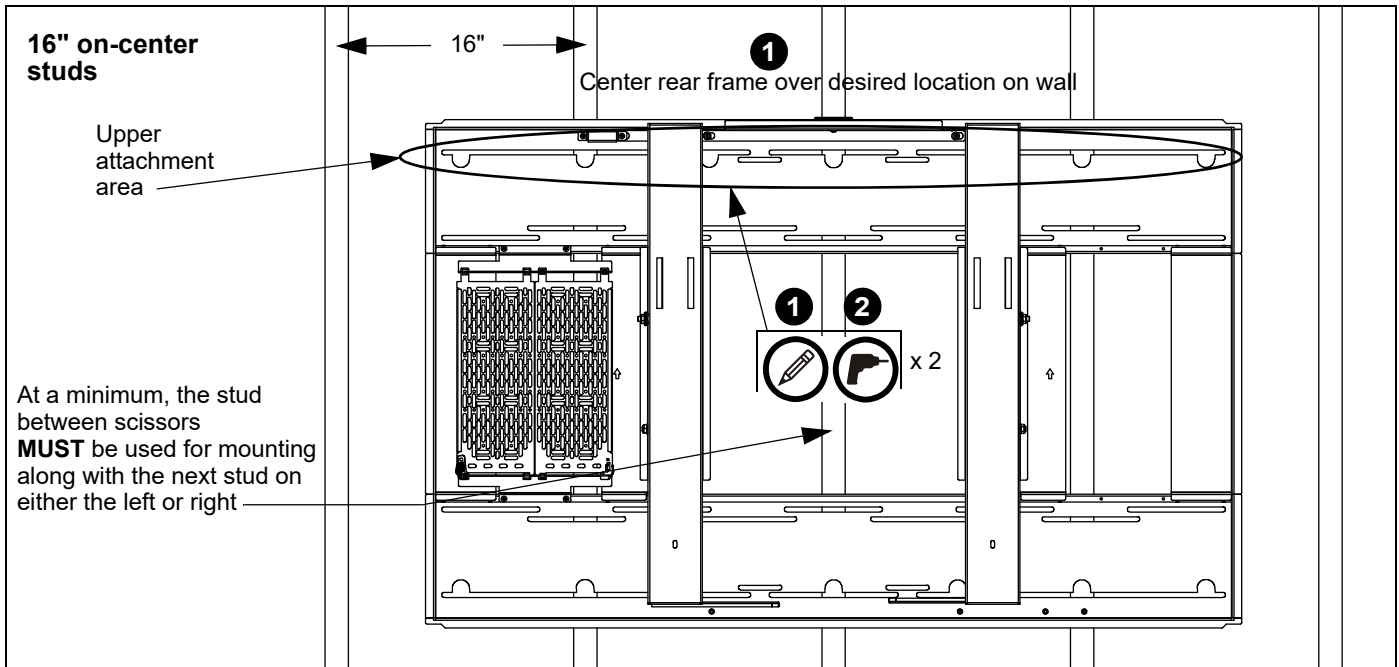
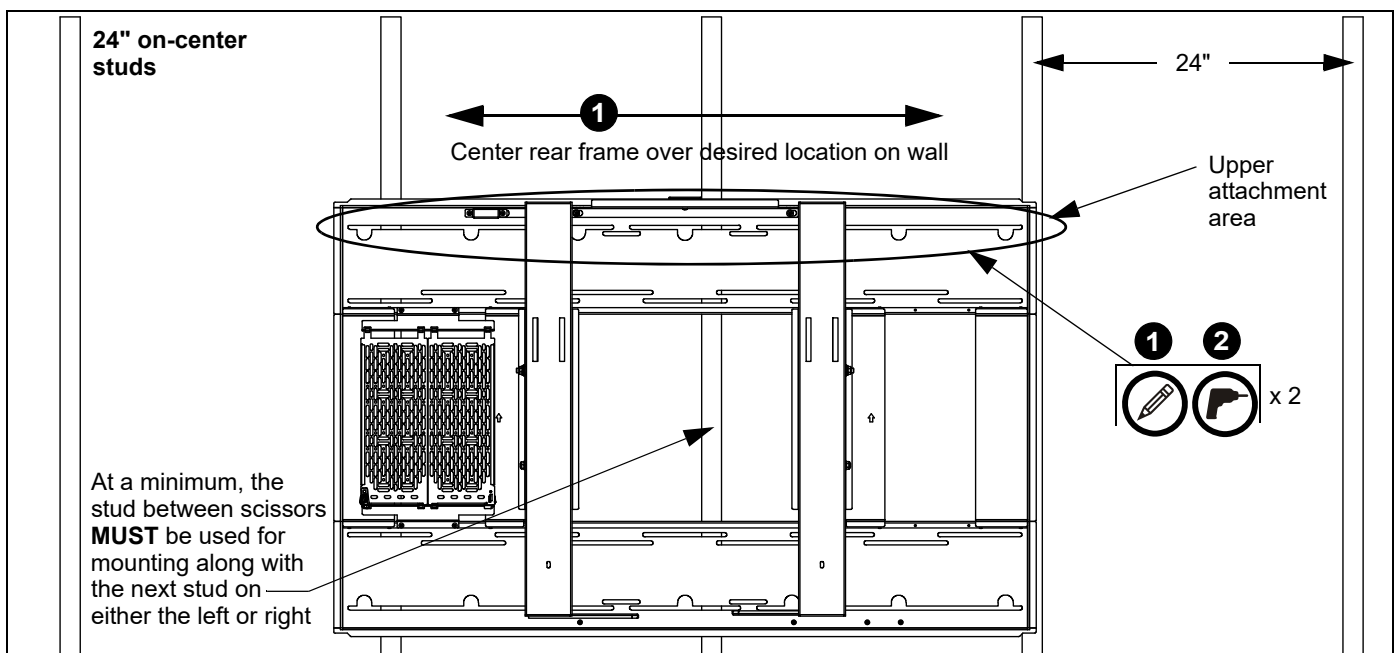

Figure 3
Figure 4
- The rear frame must be installed to a **MINIMUM** of two studs, one located between the scissors mechanism, and one to the next stud on either the left or right. (See Figure 3) and (See Figure 4).
uppermost locations over studs for attachment a minimum of 16" apart and a maximum of 24" apart. (See Figure 3) and (See Figure 4)
- For concrete walls, use a level and mark the uppermost locations for attachment as far apart as possible to provide maximum stability. (See Figure 3) and (See Figure 4)
2. Drill one pilot hole (see Table 1 for size) at locations marked in Step 1 (See Figure 3) and (See Figure 4) and follow fastener information (appropriate for wall type) located in Table 1.
IMPORTANT ! : (OPTIONAL) For additional rigidity in the installation, use a Snap-Toggle (AC) at each corner of the rear frame if it is not attached to the studs at those points. (See Figure 3) and (See Figure 4).